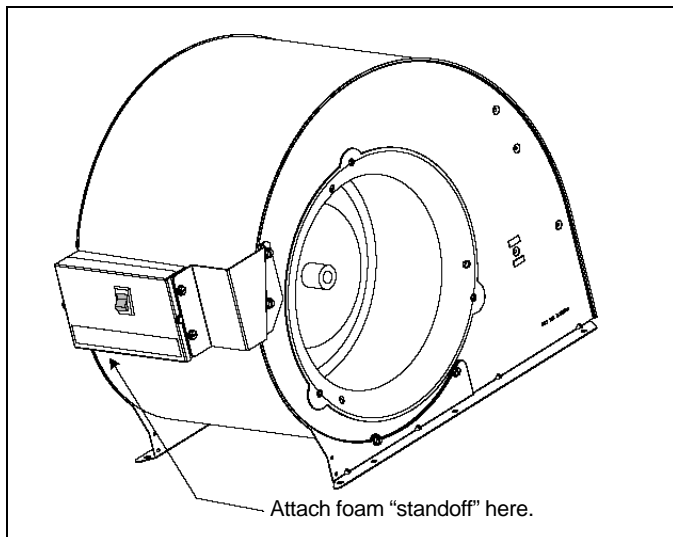

Figure 5. Foam "Standoff" for Electric Furnace
- For E2 electric furnaces, attach the foam "standoff" to the bottom corner on the back side of the sheet metal box opposite the side where the bracket is attached (see Figure 5). This "standoff" will prevent